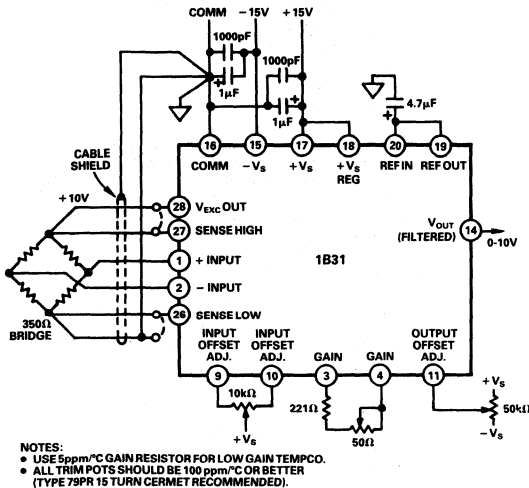

Figure 2. Typical Application
where RG is connected between the GAIN terminals (Pins 3 and 4) of the IB31, as shown in Figure 2. For best performance, a low temperature coefficient (5ppm/°C) RG is recommended. For fine span adjustment, a 50Ω potentiometer may be connected in series with RG.
**Input Offset Adjustment:** To null input offset voltage, an optional 10kΩ potentiometer may be connected across the INPUT OFFSET ADJ. terminals (Pins 9 and 10 in Figure 2). With gain set at the desired value, connect both inputs (Pins 1 and 2) to COMMON (Pin 16), and adjust the 10kΩ potentiometer for zero volts at Pin 14. For applications using software nulling, Pins 9 and 10 should be left unconnected.
**Output Offset Adjustment:** The output can be offset over the ±10V range to compensate for dead load or bridge imbalance by using a 50kΩ potentiometer connected to Pin 11 as shown in Figure 2. Pin 11 is normally grounded if output offsetting is not desired.
The remote sensing inputs should be connected to the transducer separately from the excitation leads or jumpered as shown in Figure 2.
**Power Supply Decoupling:** The power supplies should be decoupled with 1 $\mu$ F tantalum and 1000pF ceramic capacitors as close to the 1B31 as possible (Figure 2).